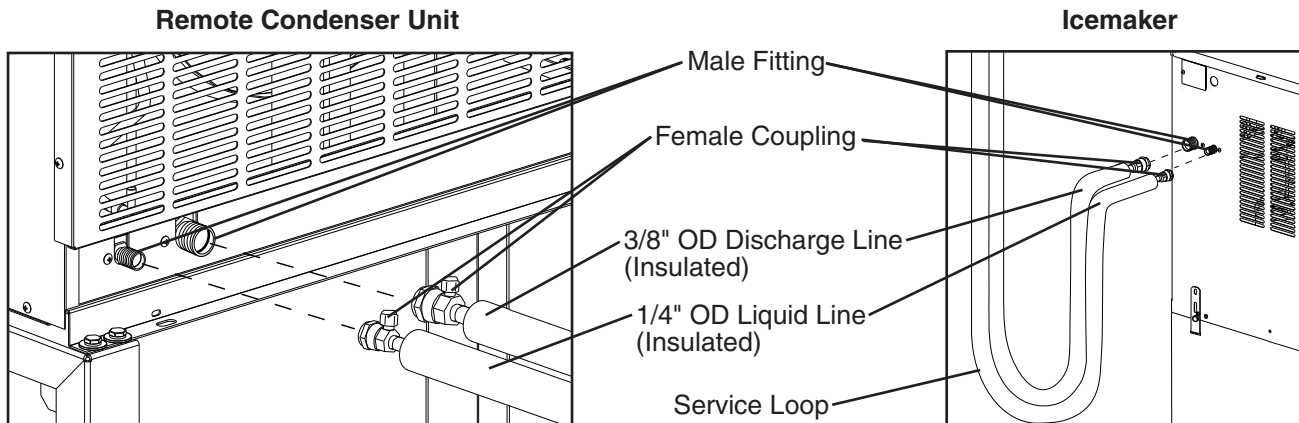

Fig. 6
- 1) Route the factory line set (3/8" OD discharge line and 1/4" OD liquid line) from the remote condenser unit to the icemaker. Leave a service loop behind the icemaker to allow the icemaker to be pulled out for service. See Fig. 6. Factory fabricated line sets are precharged and do not need to be evacuated.
- 1) Route a 3/8" OD copper tube discharge line and a 1/4" OD copper tube liquid line between the remote condenser unit and the icemaker. Leave a service loop behind the icemaker to allow the icemaker to be pulled out for service. See Fig. 6.